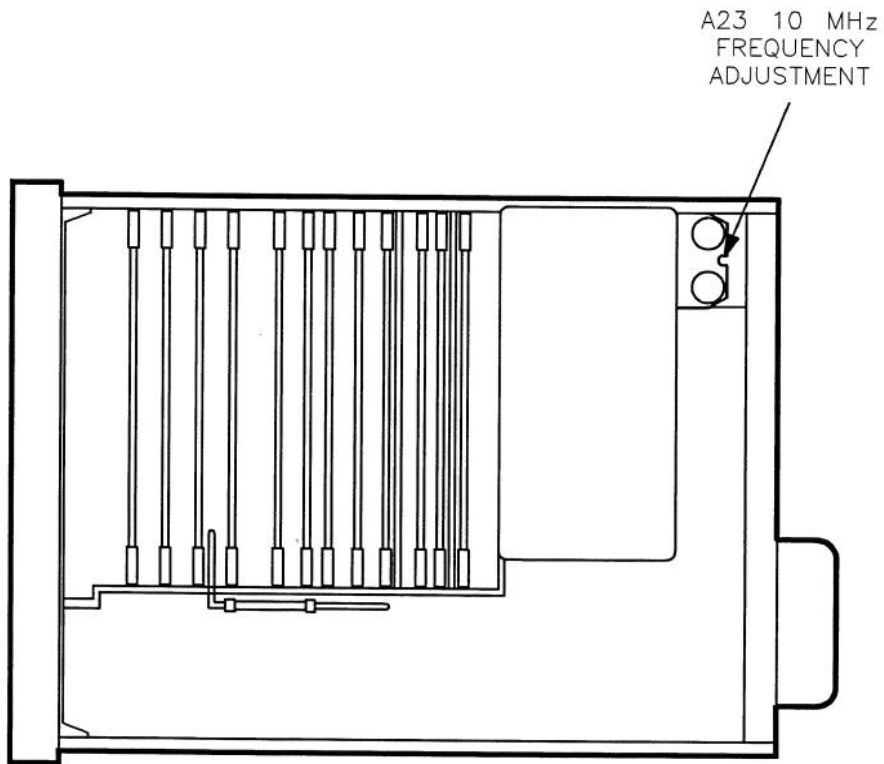

Figure 4-2. 10 MHz Standard Adjustment Location
4. Using a non-metallic tool, adjust the LO source's A23 10 MHz standard (see Figure 4-2) for minimum horizontal movement of the oscilloscope waveform.